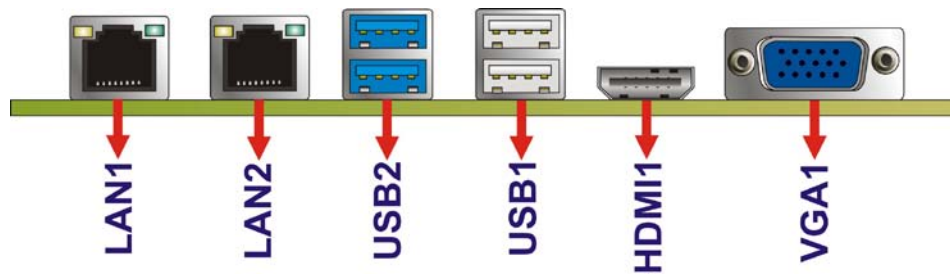

Figure 3-31: External Peripheral Interface Connector
Figure 3-31 shows the NANO-KBN-i1 external peripheral interface connector (EPIC) panel. The EPIC panel consists of the following:
CN Location: See **Figure 3-31**
- CN Location:See **Figure 3-31**